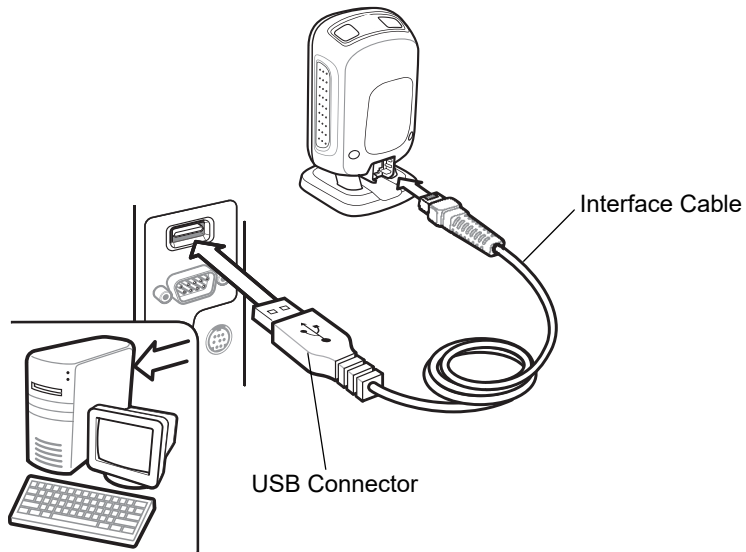

Figure 5-1 USB Connection
- ✓ **NOTE** Interface cables vary depending on configuration. The connectors illustrated in Figure 5-1 are examples only. The connectors may be different than those illustrated, but the steps to connect the digital scanner are the same.